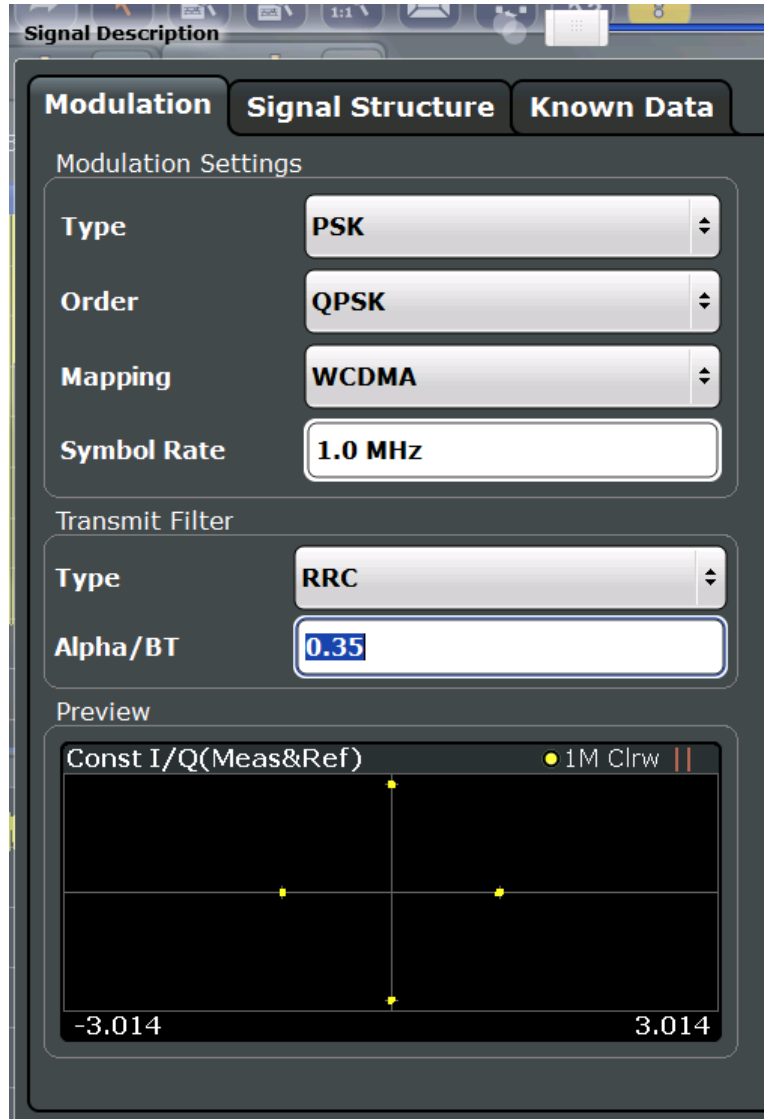

Figure 9-3: QPSK signal with RRC transmit filter
- c) In the "Transmit Filter" section, select "RRC" as "Type" and enter the "Alpha/BT" value 0.35. In the preview area of the dialog you should then see a non-distorted QPSK constellation diagram, as shown in Figure 9-3.